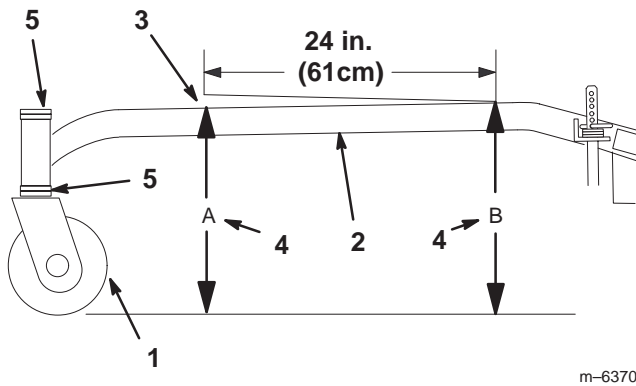

Figure 48
The carrier frame must have a pitch of a 1/4 inch (6 mm) over the length of 24 inches (61 cm) on the carrier frame (Fig. 48).
- Measure out 24 inches (61cm) on the carrier frame (Fig. 48).
- Measure carrier frame height at location **A** (Fig. 48).
- Measure carrier frame height at location **B** (Fig. 48).
- The height at location **A** must be a 1/4–3/8 inch (6 mm – 10 mm) lower than location **B** (Fig. 48).
- If the carrier frame is not correct, move caster spacers to make it a 1/4–3/8 inch (6 – 10 mm) pitch (Fig. 48). Move spacers from top or bottom to make the correct pitch.